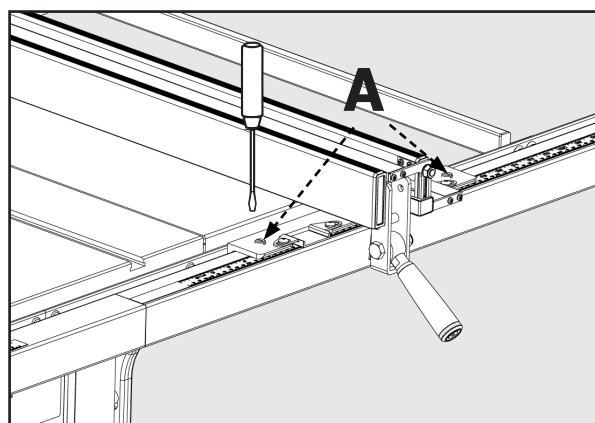

FIGURE 43
3. If the fence face is not perpendicular to the table, release the clamping lever and slightly adjust one of the slotted set screws (A) figure 43 until the fence face is perpendicular to the table.